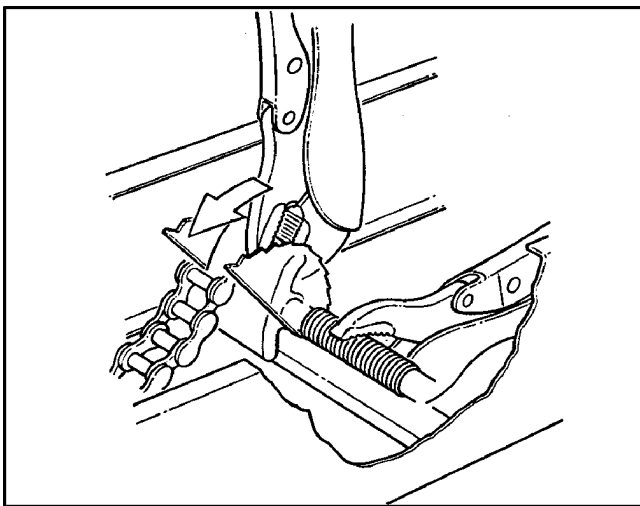

Figure 7-10. Prying the Slider Block off the Cam Assembly.
3. With pliers, pry the slider block off the cam assembly as illustrated in Figure 7-10.